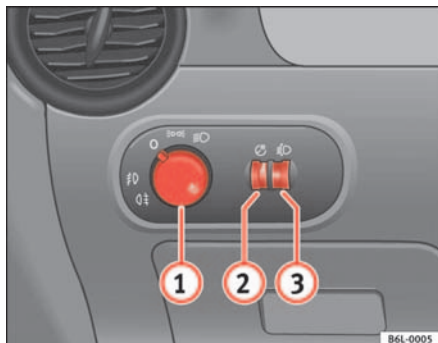

Fig. 56 Detail of the dash panel: Switch for lights, fog lights and rear fog light
- Turn the light switch \Rightarrow fig. 56 to position $\Rightarrow \text{☞}$.